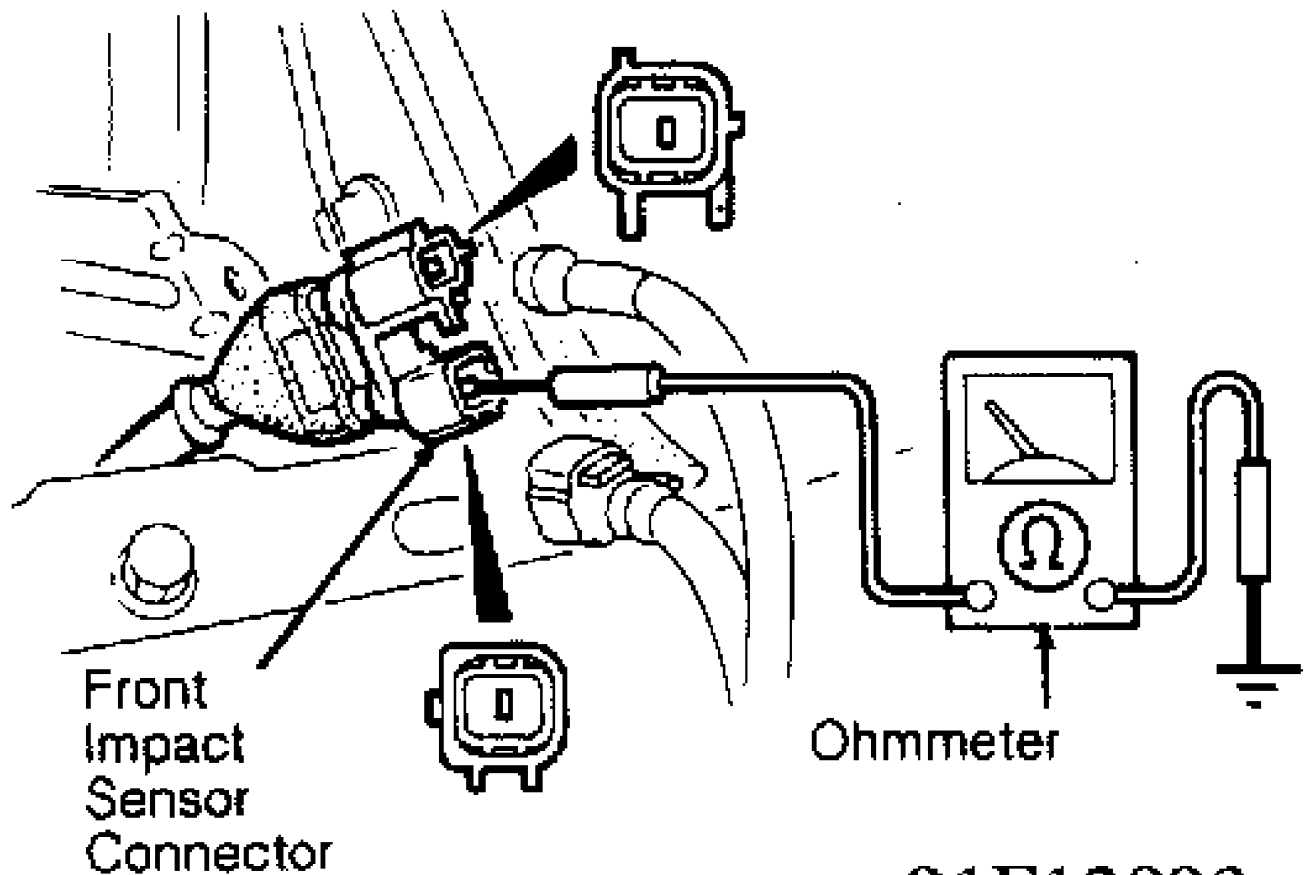

Fig. 15: Checking Continuity at Right Front Impact Sensor Connector
4) Disconnect right front impact sensor connector. Check continuity between ground and each harness sensor terminal. See Fig. 15. If continuity is present, replace wire harness assembly. If continuity is not present, go to step 7).